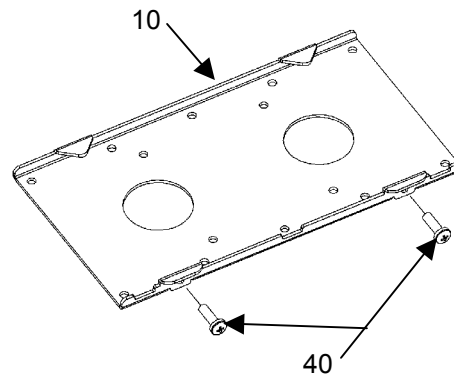

Figure 2. Installing Short Locking Screws
- To install short locking screws, use two M5 x 16mm screws (40). No spacers are needed. Refer to Figure 2.
1. Locate VESA bracket (10) and two M5 x 16mm screws (40) provided with the kit contents (see Figure 2).
2. Insert the two screws (40) into the threaded holes at the bottom of the VESA bracket (10). Turn the screws just enough to remain threaded in the holes. The screws will be tightened later.